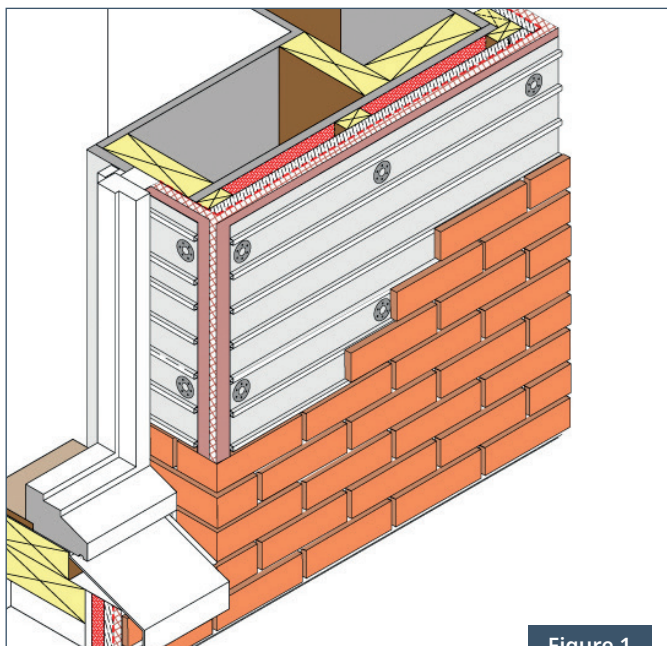

Figure 1
- **Sheathing on metal or timber framing – Figure 1**